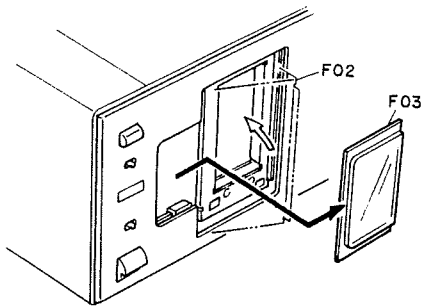

Fig. 2.3.2
- (3) Close the Cassette Compartment by hand and remove F03 (Drum Window) in the direction of the arrow. See Fig. 2.3.2.